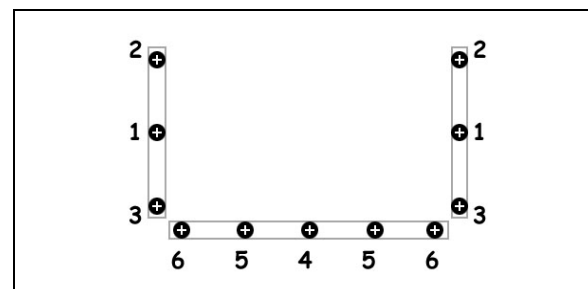

FIGURE 67 : CORRECT TIGHTENING SEQUENCE
- While a helper is pressing on the window from outside, install the awning window clamping frame and tighten screws according to the sequence shown in FIGURE 67.